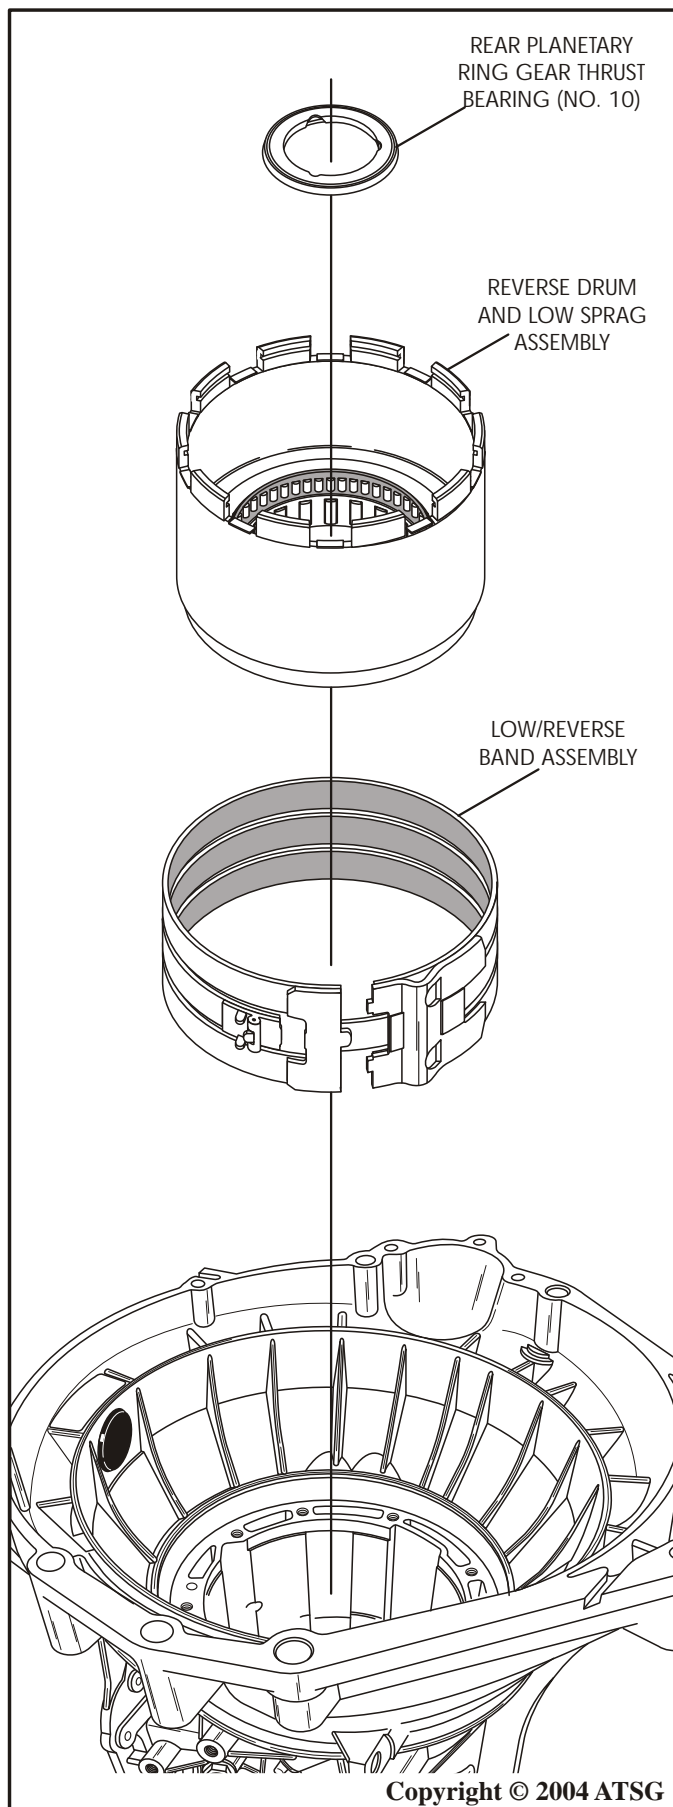

Figure 51
57. Remove reverse drum and low sprag assembly by rotating and lifting drum out, as shown in Figure 51.
58. Remove and tag for I.D. the rear planetary gear thrust bearing (No. 10), as shown in Figure 51.
59. Remove the low/reverse band assembly from the case, as shown in Figure 51.